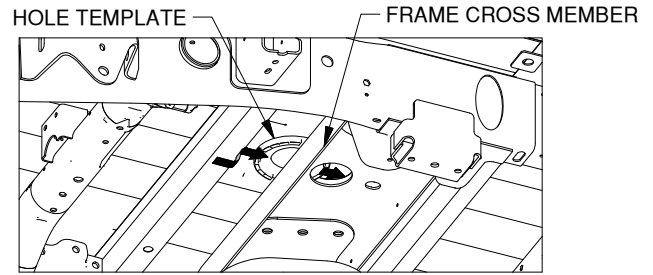

Figure B1: Looking up at bed from forward of driver side tire.
1. **Place spacer block.** Position the plastic spacer block between the frame cross member and the bed as shown, see Figure B1. Center the hole in the spacer block over the hole in the frame.